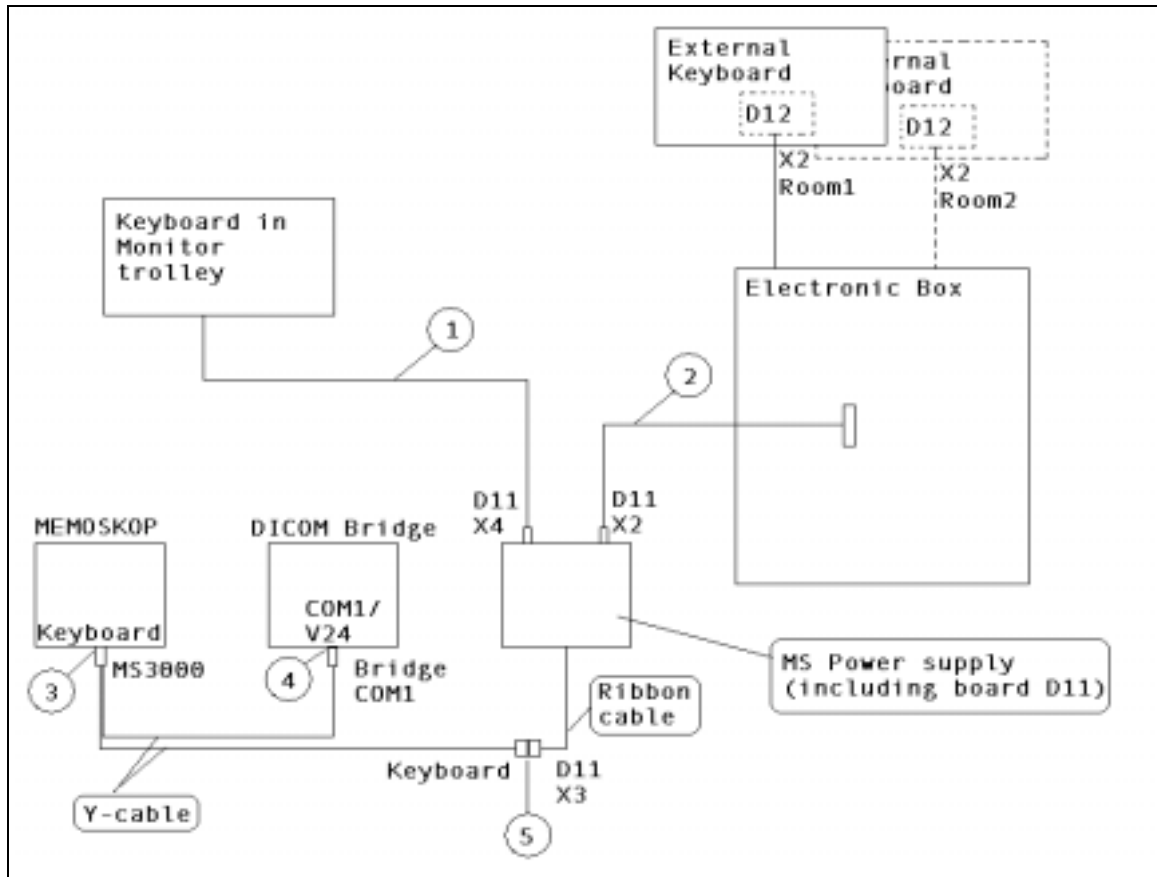

Fig. 5
- Plug D11.X2 (2/Fig. 5) of the additional TV cable is already attached and screwed to plug D11.X2 of the MS power supply.
- Attach keyboard plug to plug D11.X4 of the MS power supply (1/Fig. 5) and secure the screws.
- Attach plug MS3000 of the Y-cable (included in the shipment of DICOM bridge) to MEMOSKOP, plug "keyboard" (3/Fig. 5) and secure the screws.
- Attach "Bridge COM 1" plug of the Y-cable to "COM1 / V24" plug of DICOM bridge (4/Fig. 5) and secure the screws.
- Route ribbon cable (Fig. 5) of the MS power supply to "keyboard" plug of the Y-cable.
- Attach plug D11.X3 of the ribbon cable to "keyboard" plug of the Y-cable (5/Fig. 5).